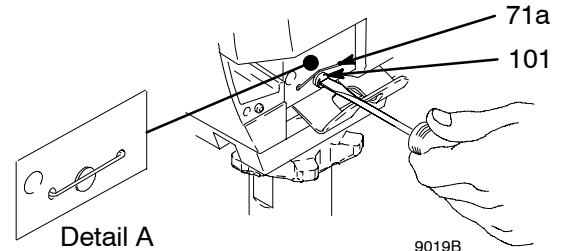

Fig. 10
If pin works loose, parts could break off due to force of pumping action. Parts could project through the air and result in serious injury or property damage. Make sure pin (101) and retaining clip (71a) are properly installed. See Detail A. Fig. 10.
5. Fig. 10. Use screwdriver to push out pump pin (101).
2. Fig. 10. See Detail A. Push pin (101) into hole until retaining clip (71a) snaps over pin.
1. Remove pump (85).
2. Remove two bolts (107), washers (79), pump bracket (110), pail hook (90) and shield (113).
3. Fig. 10. Remove clip (71a).
1. Fig. 10. Install clip (71a).
2. Install shield (113), pail hook (90) and pump bracket (110) with two washers (79) and bolts (107). Torque bolts to 40 ft-lb (54 N•m).
3. Install pump (85).